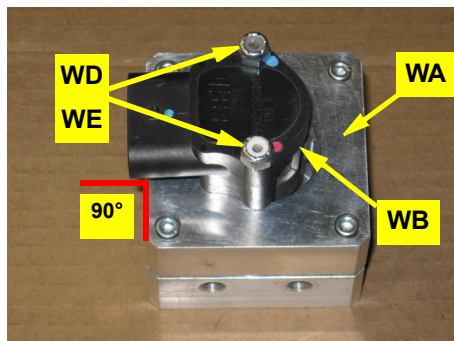

Figure 1a: Prepared WAS housing/connector
- a. Using the provided hardware **WD** and **WE**, attach the WAS **WB** to the WAS housing **WA**. Install the bolts up through the bottom of the housing. The WAS wire connector **WB** can be mounted 90° to any of the WAS housing sides (Figure 1a).